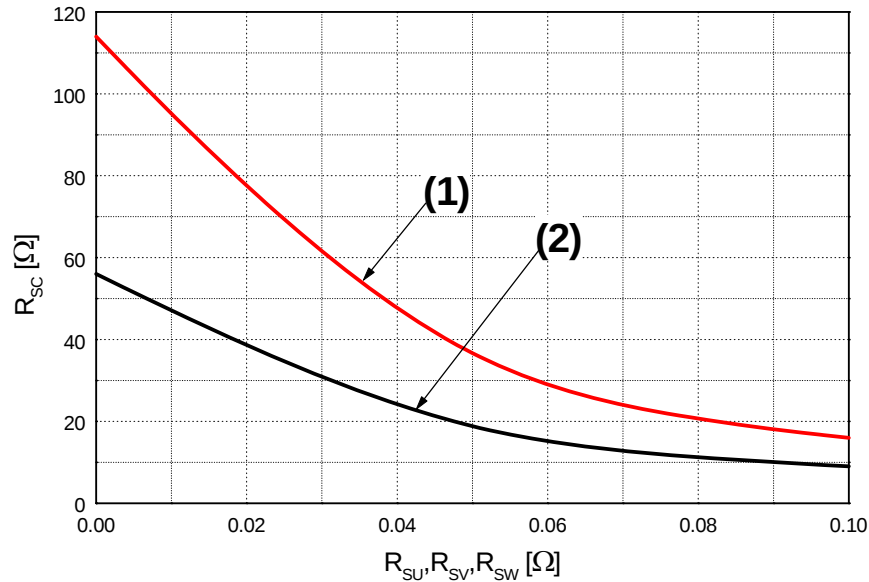

Figure 6. R_{SC} Variation by Change of Shunt Resistors (R_{SU} , R_{SV} , R_{SW}) for Short-Circuit Protection
- Short-circuit protection is functioning only at the low-sides. It would be recommended that the value of the external sensing resistor (R_{SC}) should be selected around 56 Ω in order to make the SC trip-level of about 22.5A at the shunt resistors (R_{SU}, R_{SV}, R_{SW}) of 0 Ω. For the detailed information about the relationship between the external sensing resistor (R_{SC}) and the shunt resistors (R_{SU}, R_{SV}, R_{SW}), please see Figure 6.